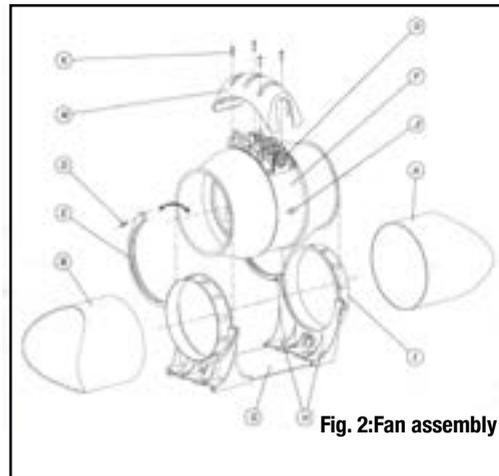

Fig. 2: Fan assembly
1. Loosen the 2 screws (D) and lift the flanges (E). Take the casing assembly (F) out of its housing (Fig. 2).
2. Install the supporting assembly and spigots (G) in the (C) position (Fig. 2). To do this it is necessary to:
- Locate the extractor in its installation place (wall or ceiling) and mark the 4 holes (H).
3. Join the inlet (A) and outlet (B) duct to the spigots (I) with resistant adhesive duct tape (Fig. 2). It is important that the ducting is of the same diameter as the spigots to allow efficient operation of the extractor.
- Replace the casing (F) in its housing in such a way that the air circulation direction indicated by the arrows (J) and the cable outlet direction are as desired. Close the flanges (E) and tighten the screws (D) (Fig.2).
- Loosen the 4 screws (K) and take off the connection cover (M) (Fig. 2).
- Perforate the flex holder (O) to allow the power supply wires to pass through (Fig. 2 & 3).